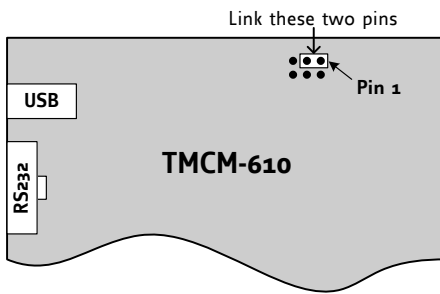

Figure 4.6: Restoring all parameters to factory default
2. Link the pins 1 and 3 of the ISP connector with a jumper (as shown in Figure 4.6).